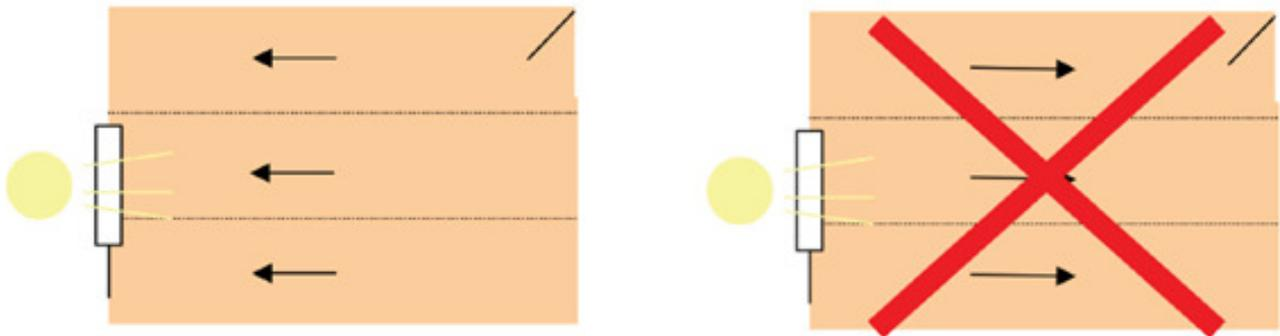

Fig 2.
- Lay the sheets factory edge to factory edge, following the direction of the arrows, which should point towards the main light source, **NEVER AWAY**. Refer to Fig 2.